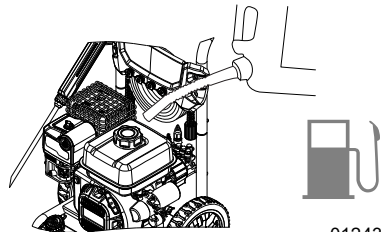

Figure 2-10. Add Recommended Fuel
3. See Figure 2-10. Clean area around fuel cap and remove cap slowly.